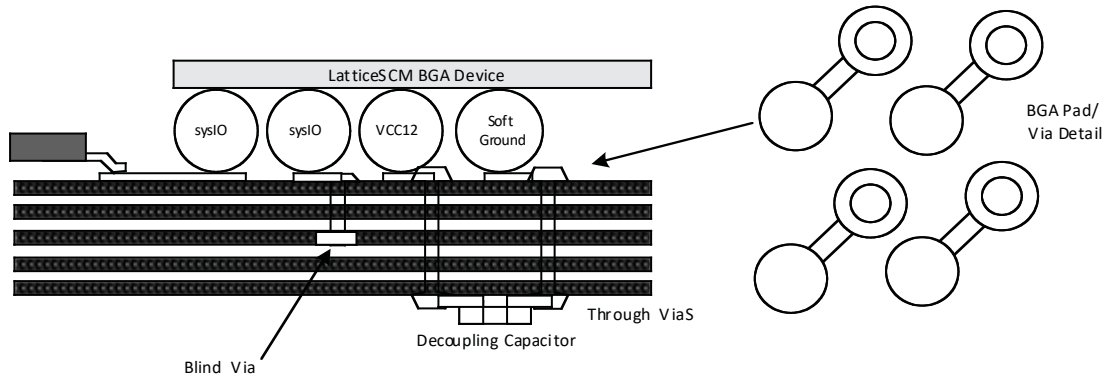

Figure 4.1. PCB Via Stack Up Detail for LatticeSCM
- Blind-vias are better than through-hole vias for making connection to the I/O. This limits the amount of coupling between vias. If through-hole vias are required, place high frequency decoupling capacitors directly beneath the device adjacent to the VCC12 power via as shown in Figure 4.1 in the example for LatticeSCM.
In Figure 4.1, coupling is caused by the mutual inductance occurring in the area between the I/O signal path and the VCC12 via. Blinding the signal via and reducing the stub minimizes the capacitive coupling effect. Following recommendations designed to minimize this effect reduces the coupling. I/O pins having close proximity to the VCC12 pins vary in different packages and packaging variations also influences noise immunity. The issues related to these locations are due to the way the pins escape or route away from the device. Determining the best escape route from the device's BGA field is critical to minimizing the effects of coupled noise on the board.